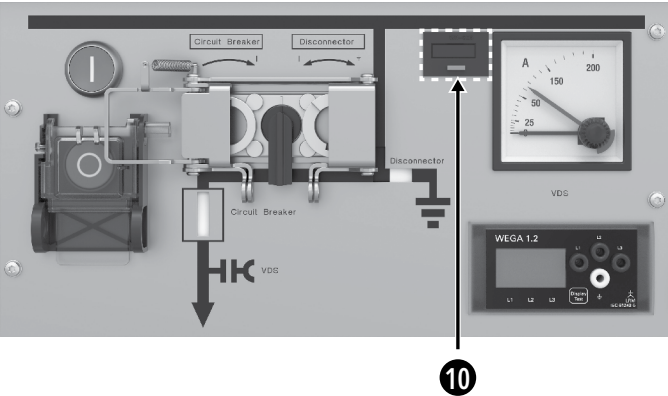

Figure 4-28: Trip indicator
The trip indicator (10), see figure 4-28, indicates whether the protection relay has switched off the circuit breaker.